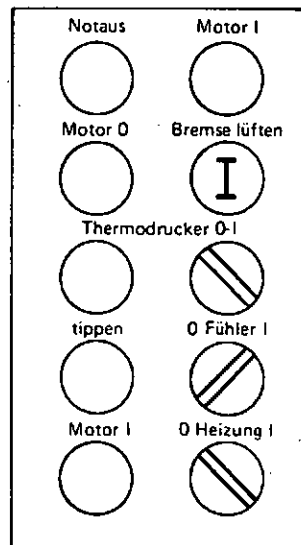

Fig. 108
2. Press the „Vent Brake“ button (Figure 108). For reasons of safety, crank the machine a few cycles and be sure that all motions are performed smoothly.